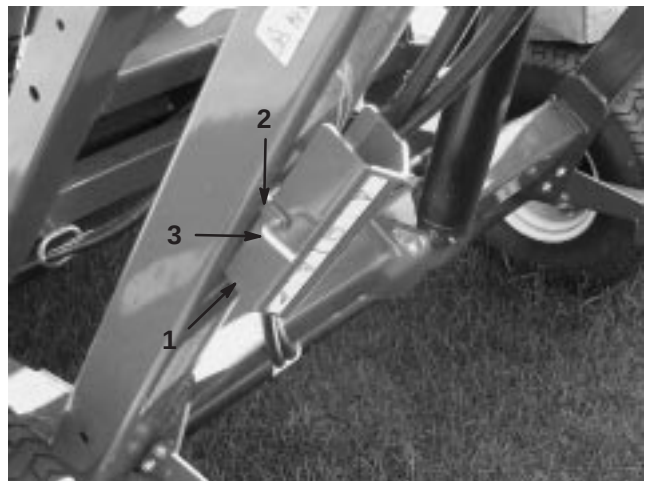

Figure 35
2. Remove the hair pin cotter and pin securing the safety support to the storage bracket on the sweeper frame (Fig. 35). Remove the safety support.